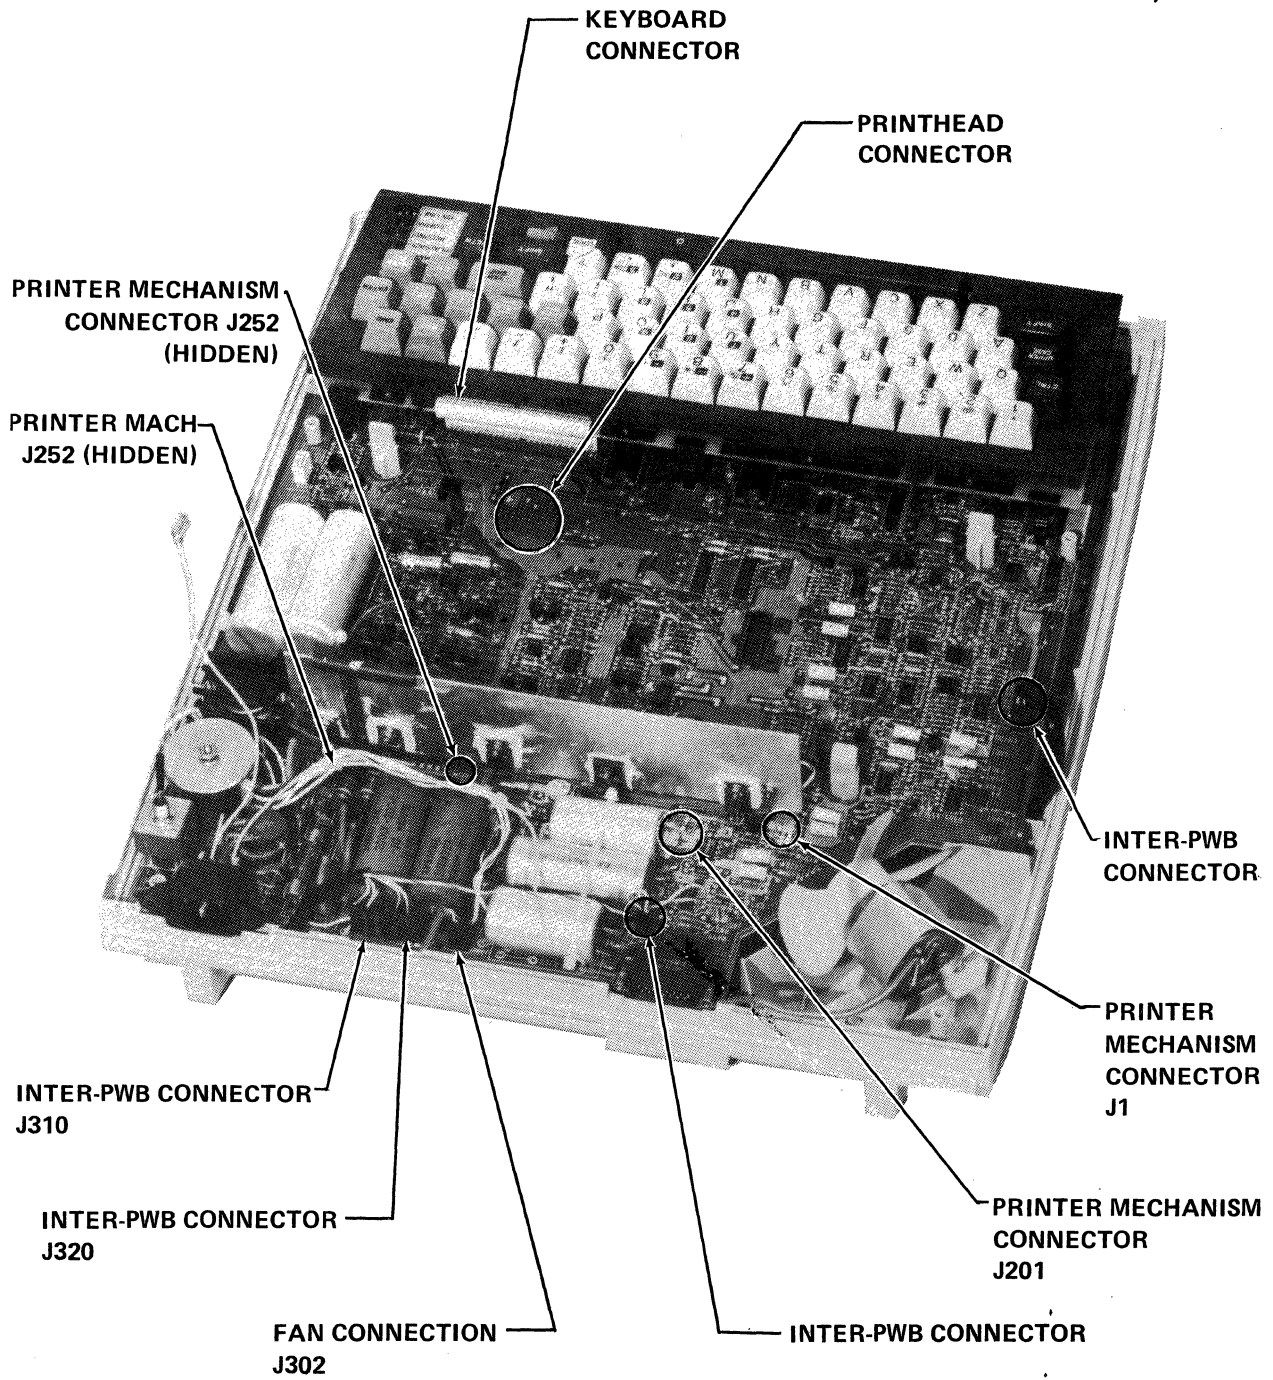

Figure 5-5. Terminal Connector Locations
2. Refer to figure 5-5 and disconnect the sensor and motor connectors, and the mechanism ground connector.
4. Connect the sensor cable to J1 and the motor cable to J201. Refer to figure 5-5 and connect the printhead solenoid connector to J251 and the line feed stepper motor connector to J252. Connect the mechanism around cable to the tab located beneath the line feed stepper motor.
2. Unplug the fan connector from the upper PWB at J302 (fig. 5-5).
4. Disconnect the four inter-board connectors (fig. 5-5).